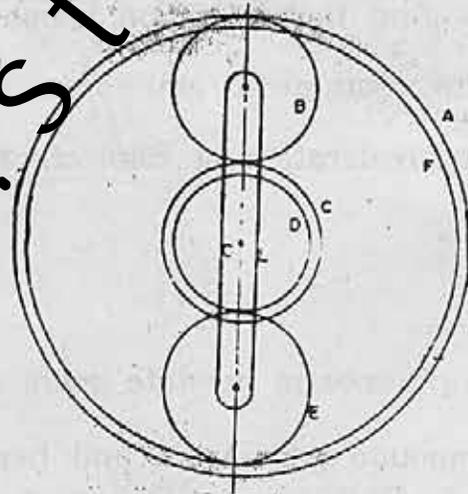

Fig. 2
- (b) In an epicyclic gear train as shown in Fig. 2 the internal wheels A & F and compound wheel C-D rotate about the axis O. The wheel B & E rotate on pins fixed to arm L. The wheels have same pitch and the no. of teeth are B and E 18, C 28, and D 26. If the arm L makes -150 r.p.m. clockwise find speed of F when